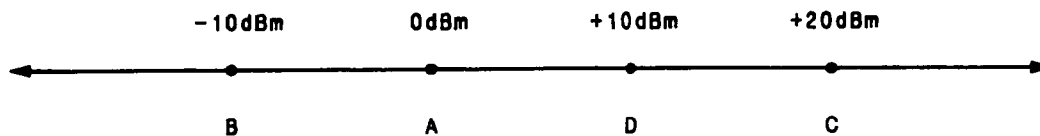
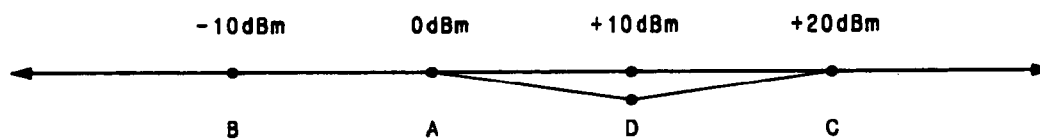

Figure 5-8. Logarithmic Amplifier Response Graph
Figure 5-9. Typical Response Curve
8. Table 5-3 lists the settings and adjustments the proper test equipment and the HP 8349B requires to set a linear response from the dual slope logarithmic amplifier. This table (adjustment points A-D) corresponds to the logarithmic amplifier response graph (shown in Figure 5-8). Ideally, the amplifier's response would be flat across the graph but deviation does occur. Adjustments A4R14, 14, 23, and 34 optimize this response.
- Adjust A4R21 (0) for a 0.0 dBm reading on the HP 8349B display. This sets the 0 dBm point at 0 dBm on the response graph.
10. For Adjustment points **B** and **C**, repeat step 9 (a - c) using the settings listed in Table 5-3. Make a copy of the Logarithmic Response Graph (Figure 5-8), and plot the response curve for points A, B, and C. It should look similar to the response curve in Figure 5-9.